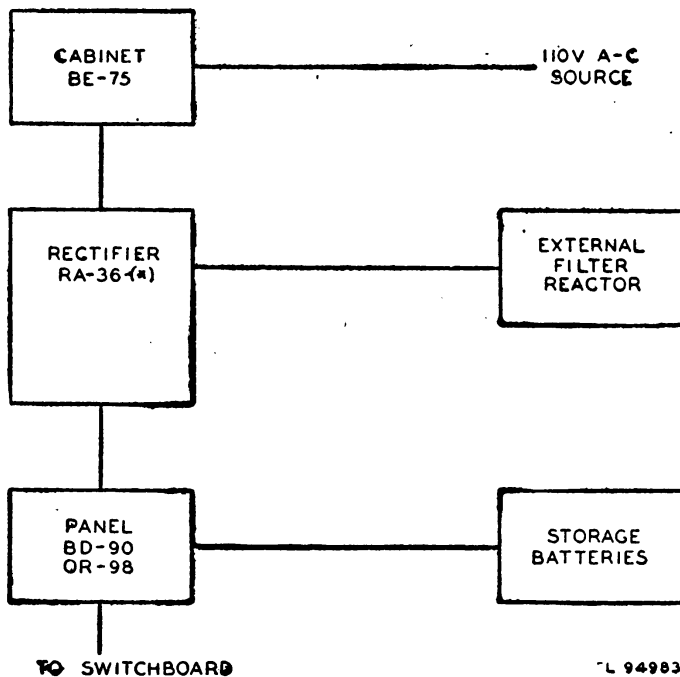

Figure 4. Application of Rectifier RA-36-(\*) in Telephone Central Office Sets TC-1, TC-2, TC-5, and TC-10.
a. Rectifier RA-36-(\*) is a component part of Telephone Central Office Sets TC-1, TC-2, TC-5, and TC-10. It is used with Cabinet BE-75 and Panel BD-90 or BD-98 to charge the lead-acid type storage batteries in this equipment. (See fig. 4.) For additional information on these telephone central office sets consult the appropriate Technical Manuals listed in appendix II.